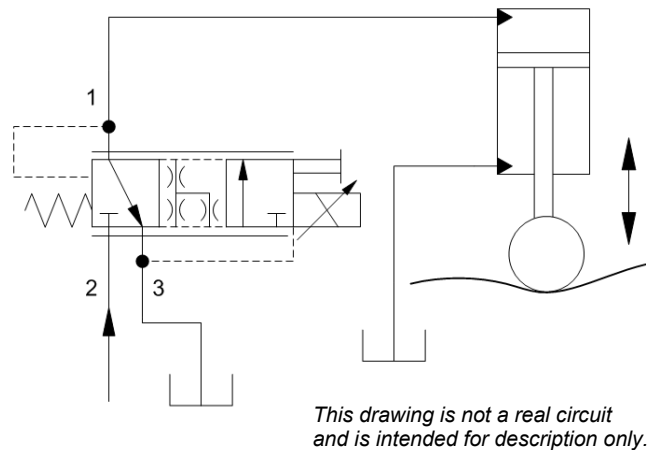

Figure 4.
- The improved dynamic response afforded by the open transition allows for precise down stream pressure regulation, especially when external forces tend to cause this pressure to rise. (See Figure 4.)